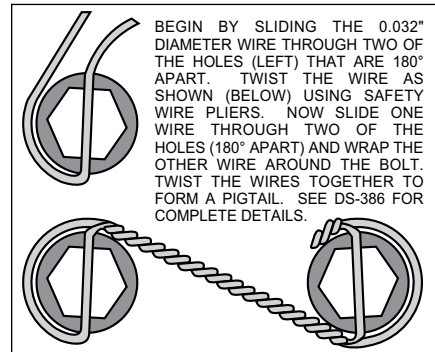

Figure 3. Safety Wire Diagram
- The caliper mounting bracket assembly (1) should be installed first with clean, dry threads on the mounting bolts. The bracket must tighten squarely against the inboard side of the caliper mount bosses on the spindle body. Inspect for interference from casting irregularities, machining ridges, burrs, etc. Slide bolt (2) through the hole in the spindle body where the OEM bolt was removed. Use one thin shim (4) between the bracket and spindle during initial trial fitting. Later, after the caliper, pad and rotor alignment have been checked, and any necessary shims have been put in place, the mount bolts (2) should be coated with red *Loctite*® 271 and torqued to 60 ft-lb.
- With the larger I.D. side of the rotor (5) facing away from the hat (6), bolt rotor (5) to hat (6) through the backside of the rotor using washers (7) and bolts (8). Apply red *Loctite*® 271 to the bolt threads and torque to 155 in-lb using a criss-cross pattern. For an added measure of security, the bolts may be safety wired using standard 0.032 inch diameter stainless steel safety wire as shown in Figure 3. Please refer to Wilwood's data sheet DS-386 (available at [www.wilwood.com/Pdf/DataSheets/ds386.pdf](http://www.wilwood.com/Pdf/DataSheets/ds386.pdf)) for complete safety wire installation instructions. Slide the rotor/hat assembly onto the spindle. Install a couple of lug nuts (hand tighten) to keep the rotor/hat assembly in place while continuing with the installation.